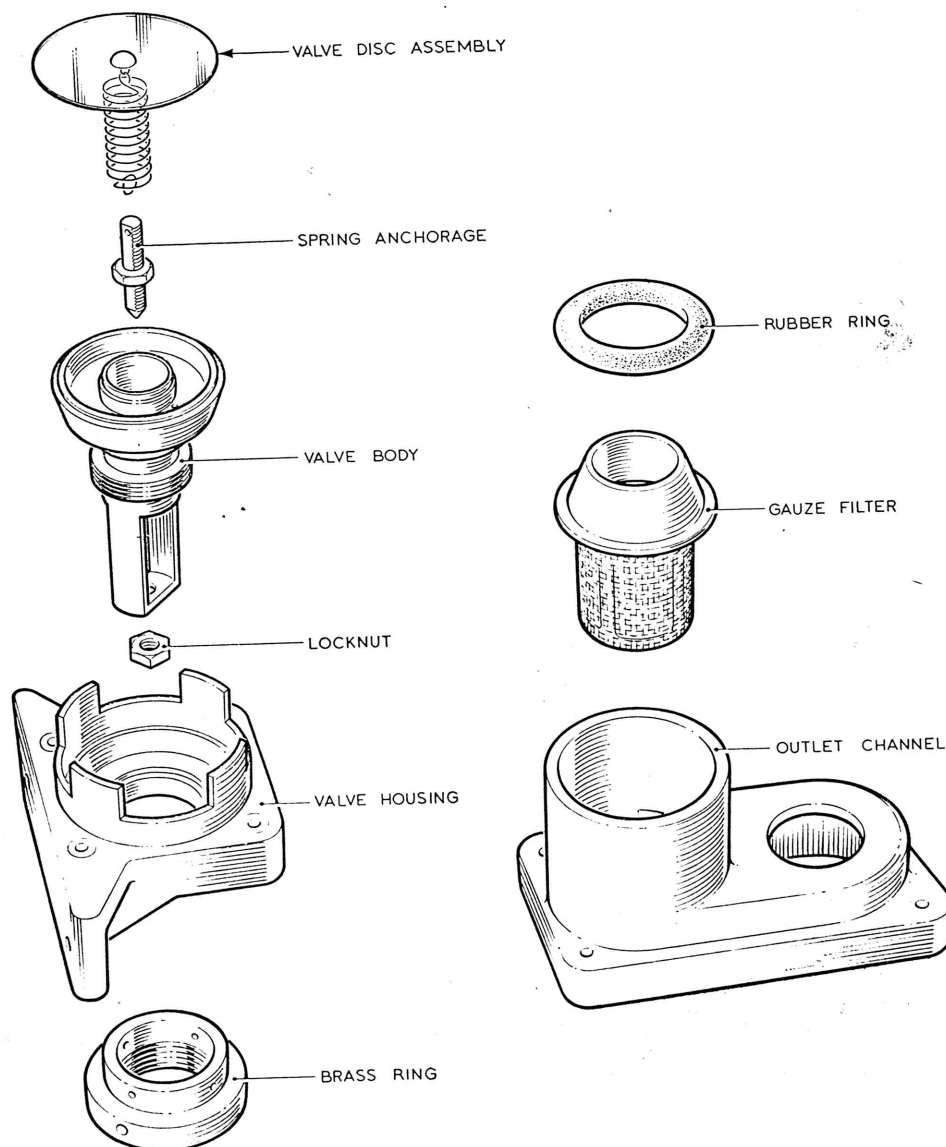

Fig. 2. Valve components
4. The components housed within the economizer case consist principally of a rubberized fabric bag, a valve assembly and a valve housing. The fabric bag fits into the body assembly and is attached, by an outlet port, to a moulded outlet channel, and by an inlet port, to the inlet pipe. The valve body (fig. 2) comprises a brass body and spring support which is held on a valve housing by a threaded brass ring. The inner and outer valve seatings are machined in one piece on the valve body and afterwards lapped flat